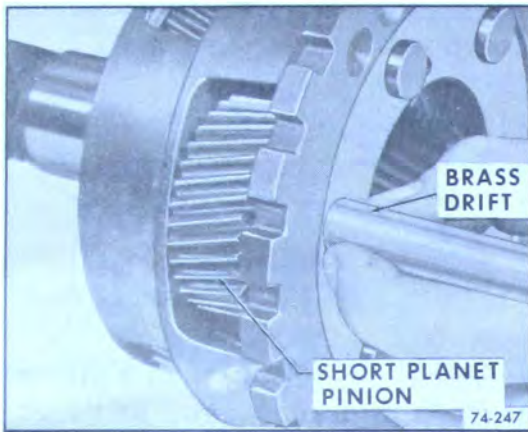

Figure 74-247
3. Start with a soft planet pinion first. Insert Brass Drift into front of carrier. See Figure 74-247.